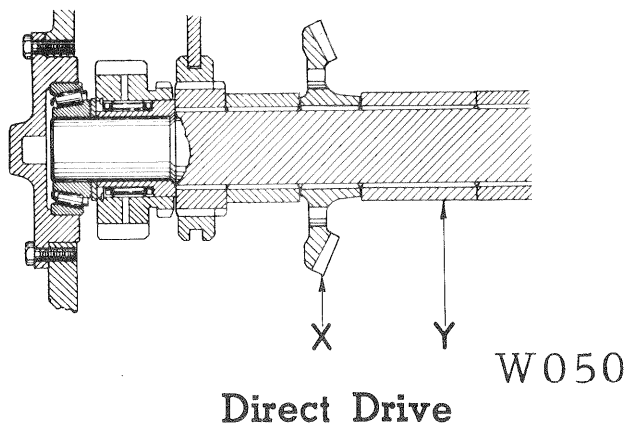

Figure 56
1. Pull the bevel gear shaft out of the right side of the case far enough to enable switching places with the bevel gear (X) and spacer (Y). Fig. 56. Push the shaft into place and secure it after the switch is made.